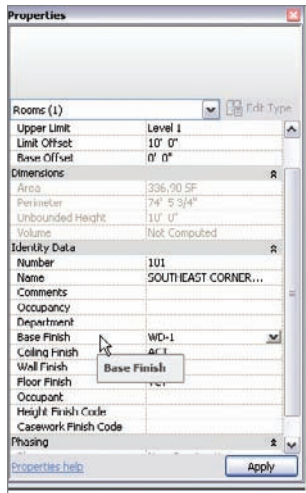

FIGURE 15.11 Once a field has been added to the database, it is available for the rest of the rooms.
10. In the Properties dialog, click into the Base Finish field. Notice there is a pull-down menu. Click the arrow and select WD-1, as shown in Figure 15.11.